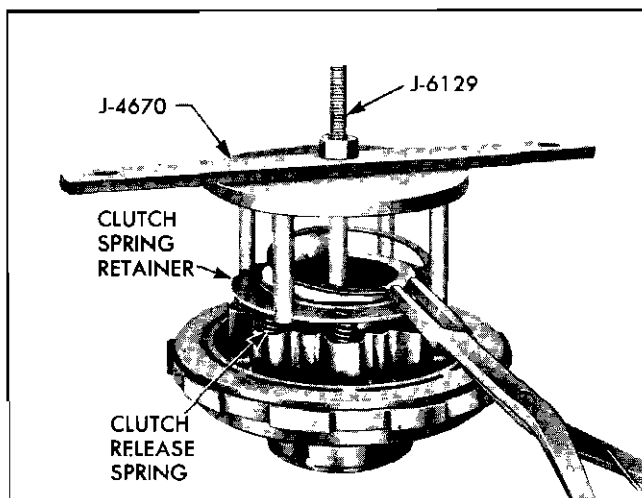

Fig. 77 Removing Rear Unit Clutch Spring Snap Ring
of spring retainer and start nut on stud J-6129 (Fig. 77). NOTE: If compressor J-4670 has no hole in middle, drill a $\frac{1}{16}$ " hole so that stud J-6129 can be inserted through it.
- d. Remove snap ring (Fig. 77).